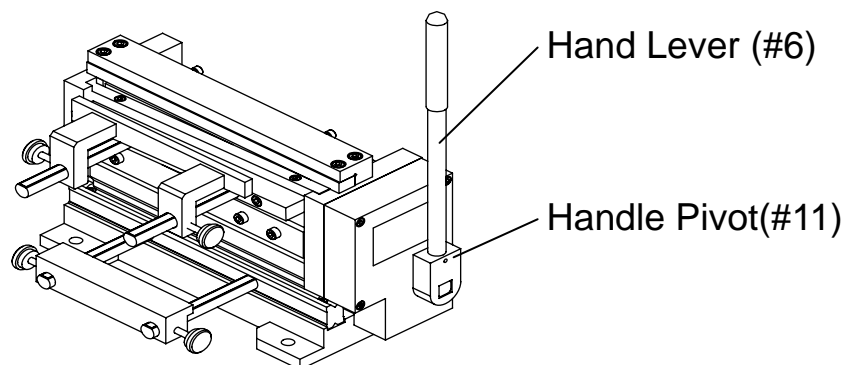

Figure 2 – Hand lever Installation
Step 2: Insert the HAND LEVER (#6) into the Handle Pivot, grooved end first. When the groove in the HAND LEVER is centered in the Handle Pivot, tighten the Knob as shown in Figure 2.